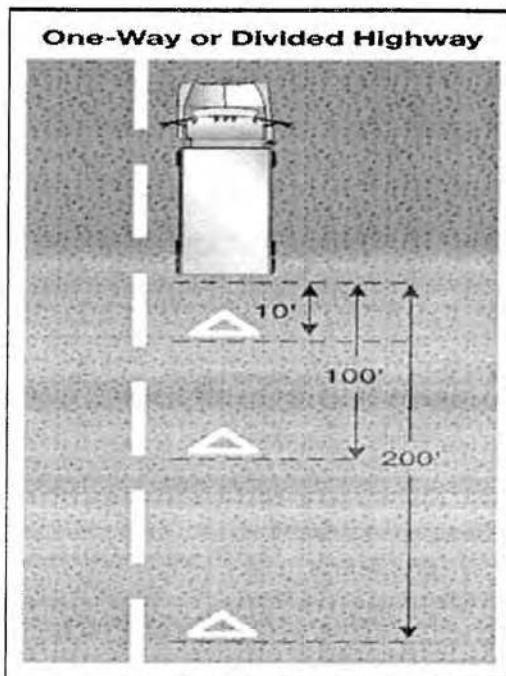

Figure 2.8
- If you must stop on or by a one-way or divided highway, place warning devices (i.e. flares, triangular reflectors, cones, etc.) 10 feet, 100 feet, and 200 feet toward the approaching traffic. See *Figure 2.8*.